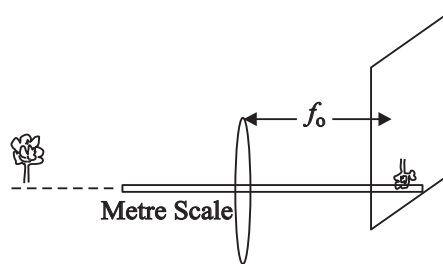

Fig. 19.4
- (i) Find the focal length of the objective Lens f_o , by focussing the image of a distant bright object on a screen, or on a wall of your laboratory and measuring its distance from the lens (Fig. 19.4). Similarly, find the focal length of eye lens f_e . These are only approximate values.